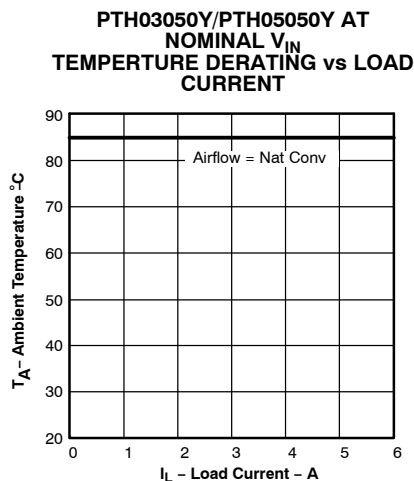
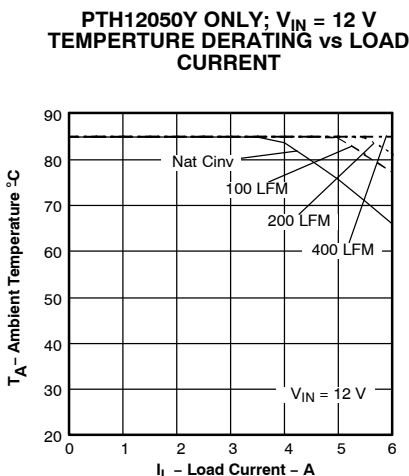

Figure 4.
Figure 5.
- (2) The temperature derating curves represent the conditions at which internal components are at or below the manufacturer's maximum operating temperatures. Derating limits apply to modules soldered directly to a 4 mm x 4 mm double-sided PCB with 1 oz. copper. For surface mount packages (AS and AZ suffix), multiple vias (plated through holes) are required to add thermal paths around the power pins. Please refer to the mechanical specification for more information. Applies to Figure 4, and Figure 5.